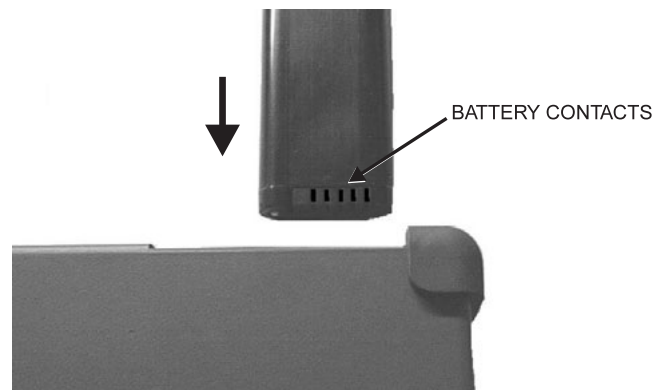

Figure 6. Battery Orientation
5. Replacement is the opposite of removal. Note the orientation of the battery contacts, and be sure to insert the new battery with the contacts facing the rear of the unit (Figure 6).